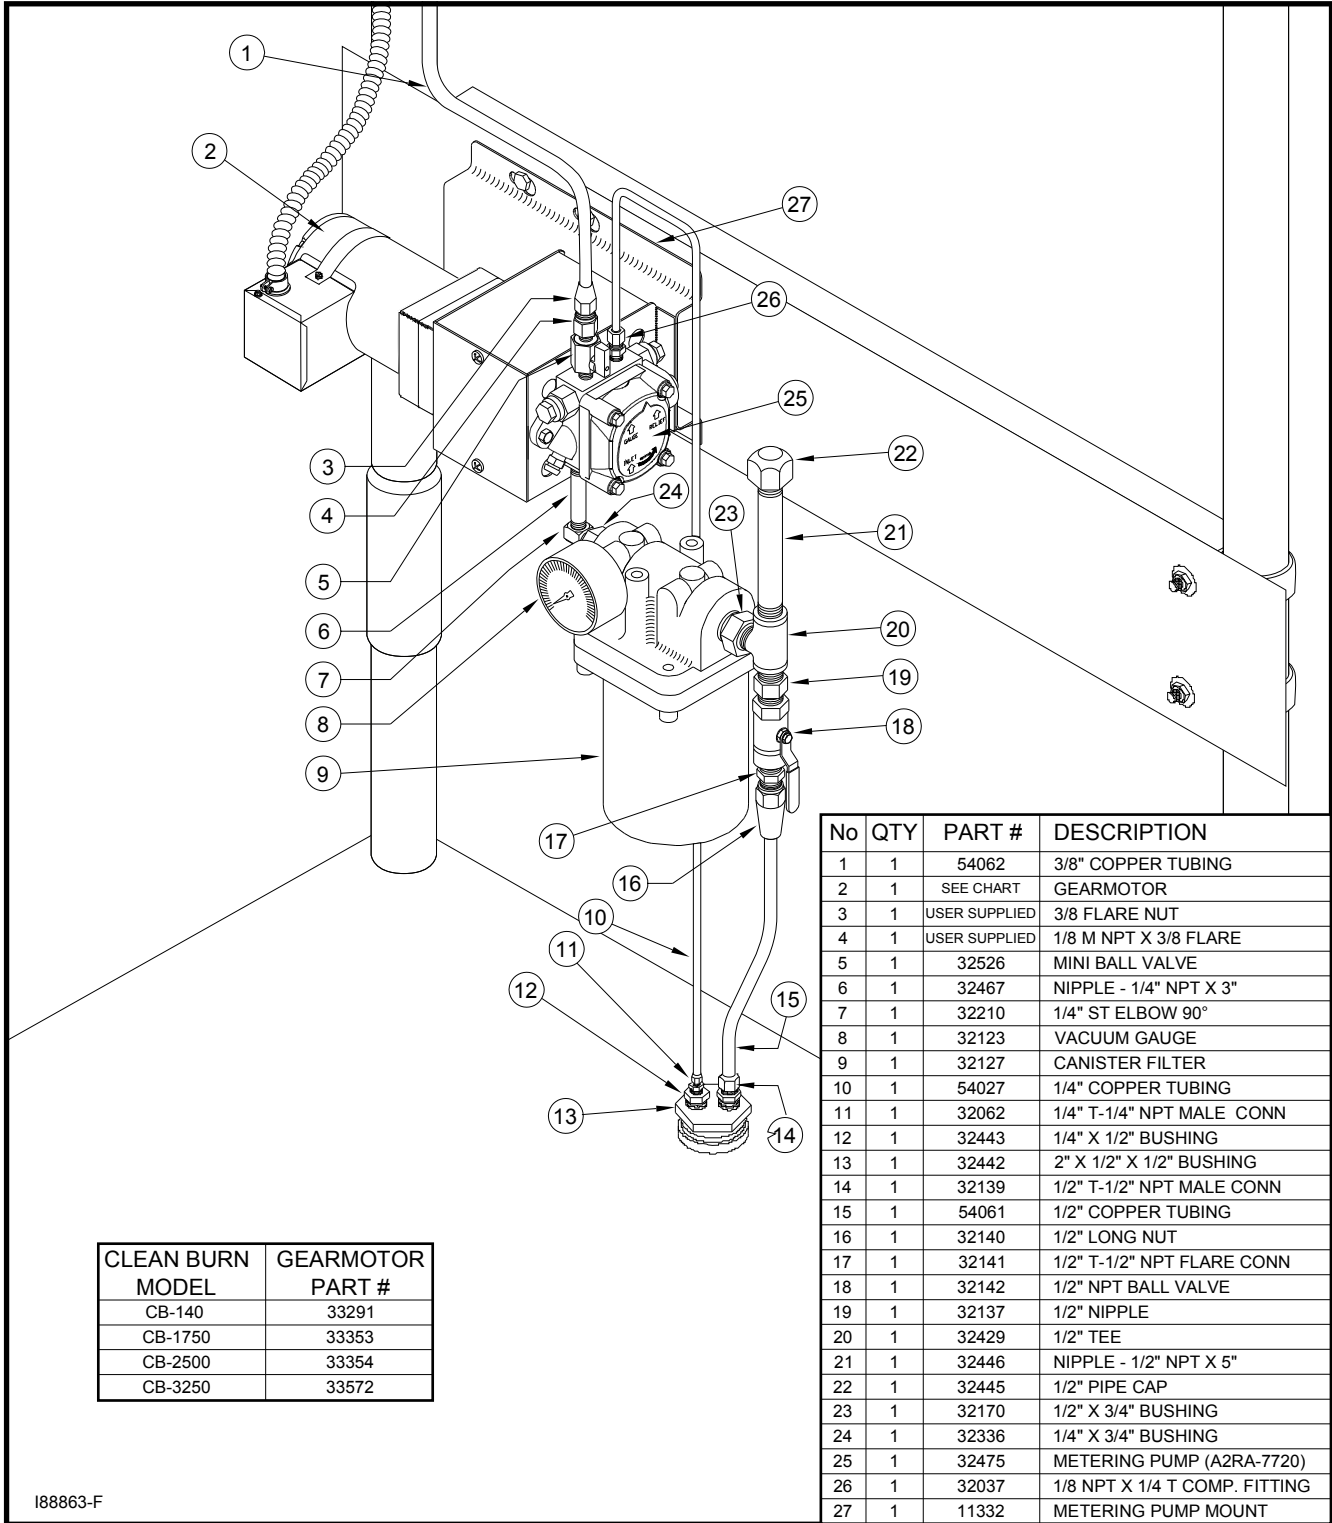

Figure 3H - Suction Oil Line & Pressure Oil Line Components
1. Refer to Figure 3H for a detailed description/illustration of the suction oil line components.
- a. Refer to Figure 3H for a detailed look at the metering pump components and fittings.
- Install the canister filter assembly onto the 1/4" x 3" brass nipple as shown in Figure 3H. The canister filter must be installed with the arrow pointing towards the pump (direction of oil flow).
- a. Refer to Figures 3H and 3J.
1. Refer to Figures 3H, 3J, and 3K.